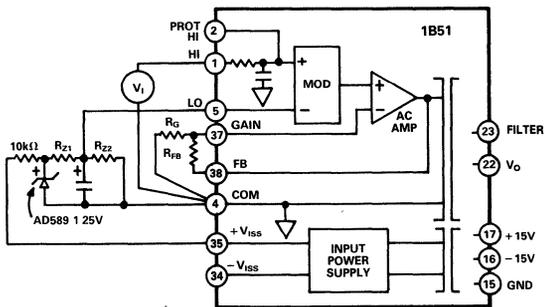

Figure 1. Input Gain Setting and Zero Suppression
Gain Setting: The gain of the 1B51 is controlled on the input side by a pair of user provided resistors (see Figure 1). A feedback resistor of $20k\Omega \pm 20\%$ is required between the feedback pin (FB) and the gain pin. The gain setting resistor is connected between the gain pin and input side common (COM). The gain equation is
Zero Suppression: Since the 1B51 is a differential input device, true input referred zero suppression can be accomplished (see Figure 1). A voltage reference powered by the input side power supplies is applied to the LO terminal. Since the transfer function is